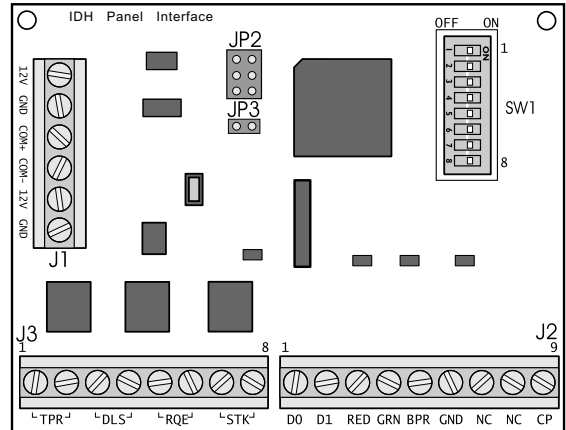

Figure 22a Panel interface circuit board
- Note:** JP2 and JP3, shown in Figure 22a, are used for manufacturing purposes only.